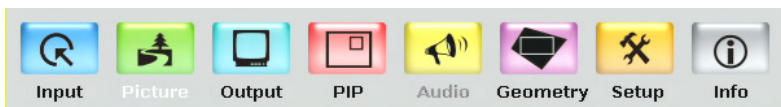

Figure 8: MENU Items
- To display the main MENU screen with eight interactive icons (see Figure 8), press the MENU button on the front panel or the MENU key on the infrared remote control transmitter (see Section 7.3)